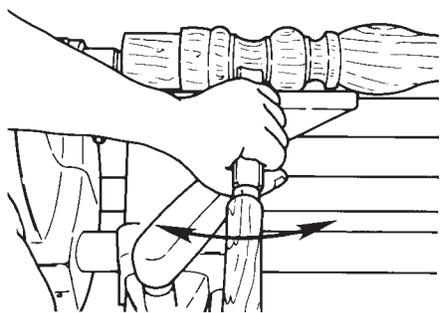

Figure D-47
- b. Cut the coves. Feed a gouge slowly into the stock, then move the handle of the tool from side to side to shape the cove. See Figure D-47.